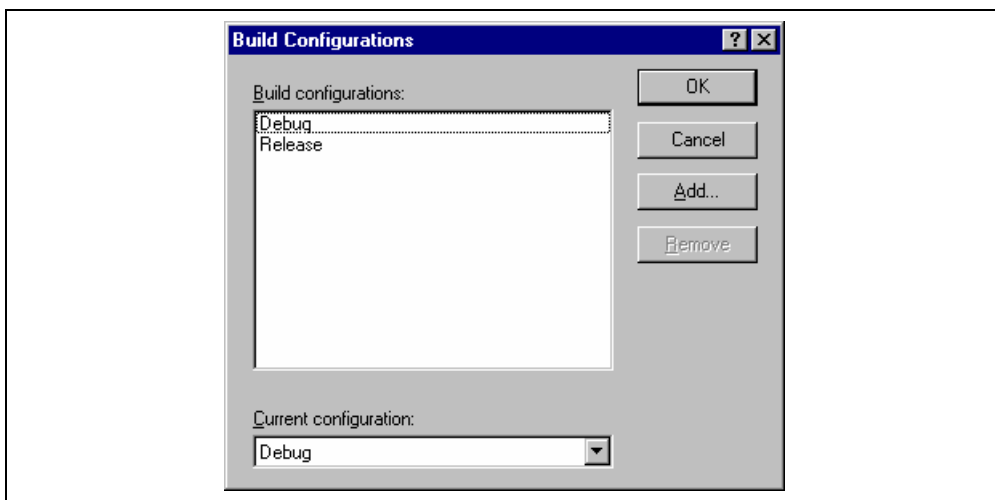

Figure 2.16: Build Configurations Dialog
1. Select [**Options->Build Configurations...**]. This will invoke the “Build Configurations” Dialog (figure 2.16).
1. Select **[Options->Build Configurations...]** to display the “Build Configurations” dialog (figure 2.16).